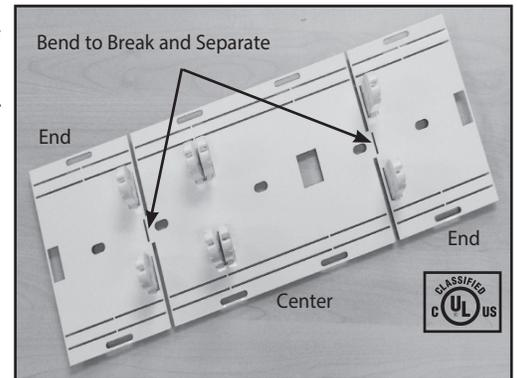

Figure 1. Preparing the Retrofit Socket Plate for Installation.
5. For 8-foot strip light fixtures the RetroFit Socket Plates are divided into three (3) sections; two (2) end sections and one (1) center section. Bend the end and center sections on the Retrofit Socket Plate back and forth until they separate. Follow this same procedure for the opposite end of the center section. See Figure 1.